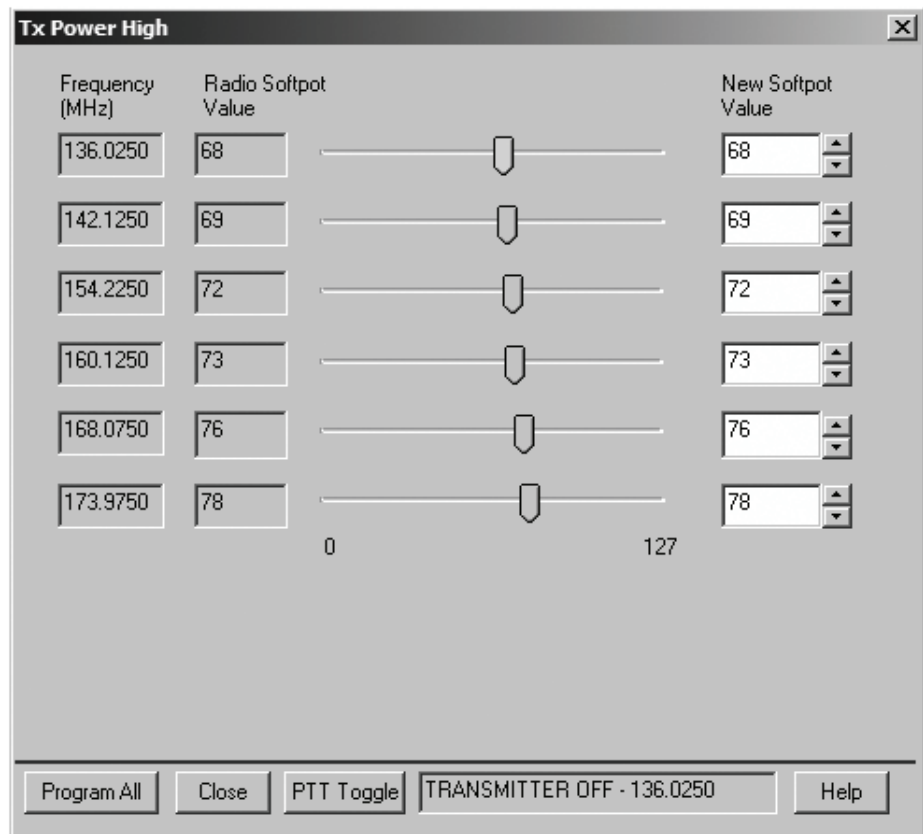

Figure 9. Transmit Power Alignment Screen (Typical)
1. Select the **TX Power** alignment screen. The screen will indicate the transmit frequencies to be used. See Figure 9.